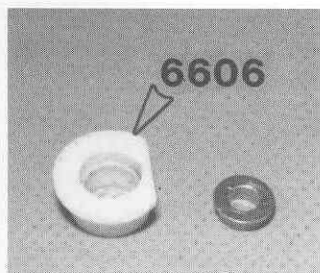

Fig. 54
- ☐ **Fig. 54** Take one of the #6606 bearing adaptors out of bag #6-12 and one of the narrow bushings with a 1/4" dia bore.